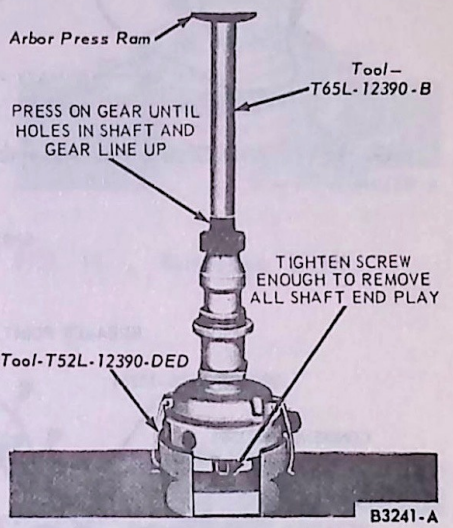

FIG. 11 Installing Original Shaft and Gear—6-Cylinder Engine
5. Install the assembly in a press. Press the gear on the shaft (Fig. 11).